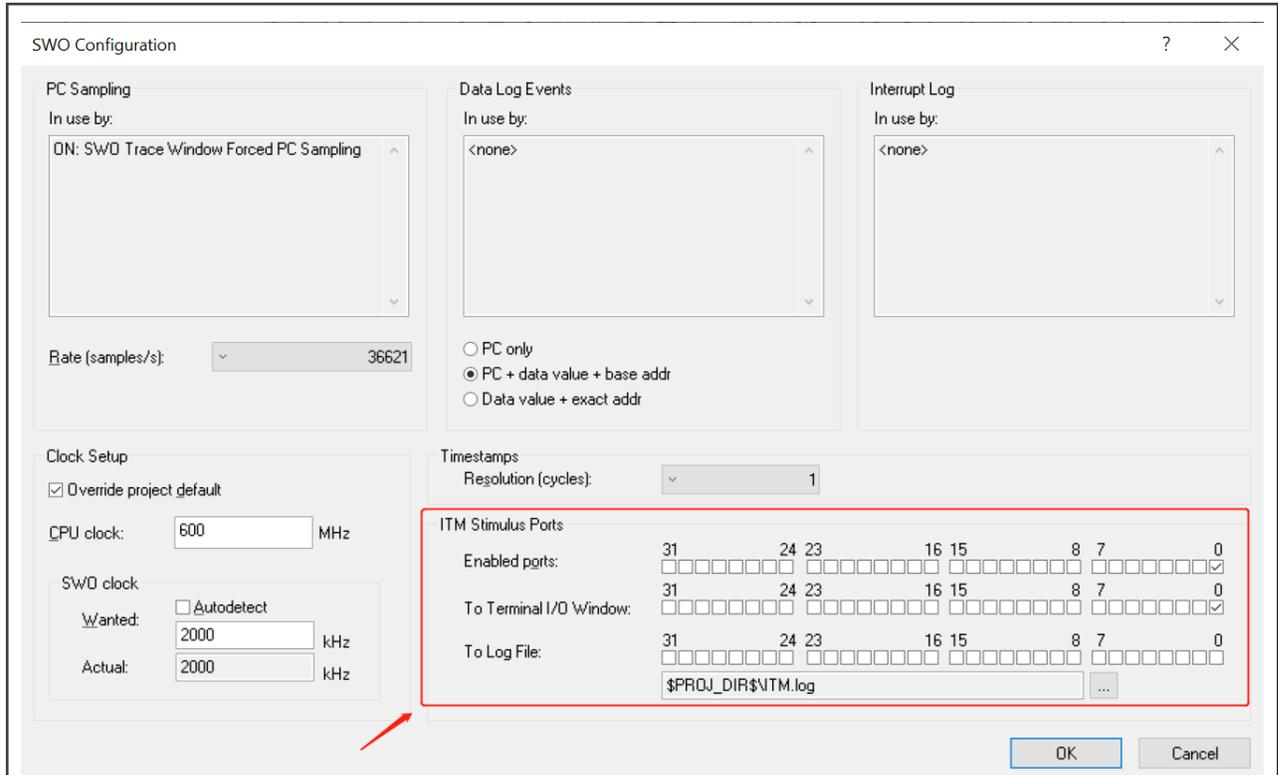
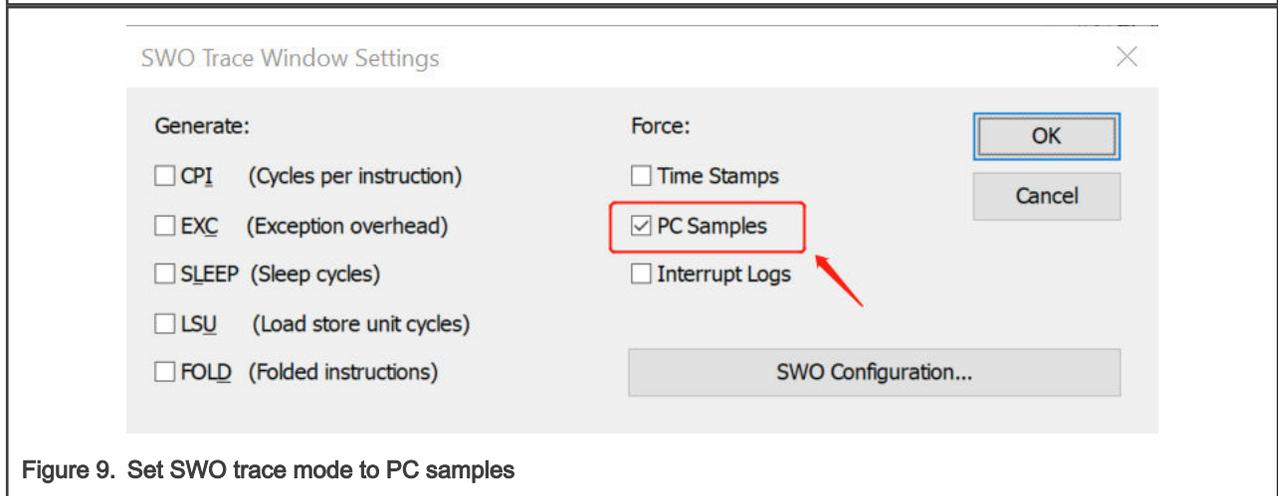

Figure 8. Set the ITM stimulus port to port0
Figure 9. Set SWO trace mode to PC samples
- Download and debug the project. Click **File Menu -> J-Link -> SWO Configuration**. Make configurations on the **SWO Trace Window Settings** window, as shown in Figure 8 and Figure 9.